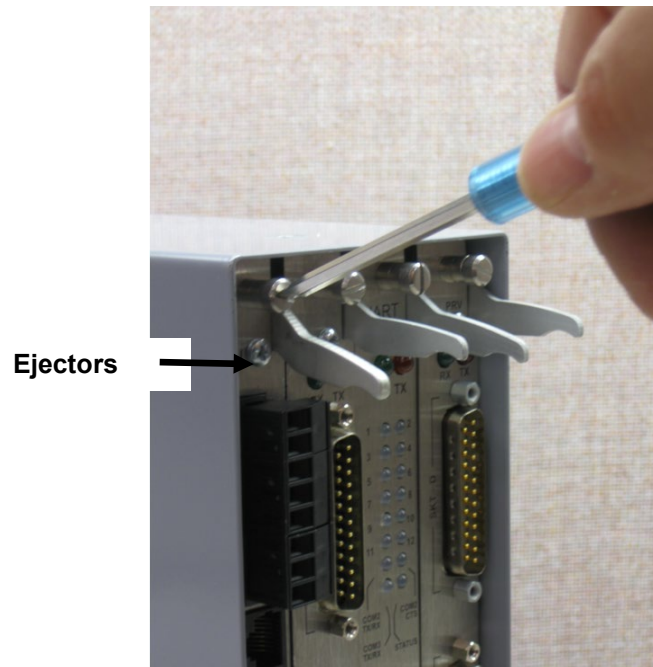

Figure 2-8. Unscrewing the Retention Screws
2. Unscrew the retention screws before you attempt to remove a module. This avoids damage to the ejectors (refer to *Figure 2-8*).